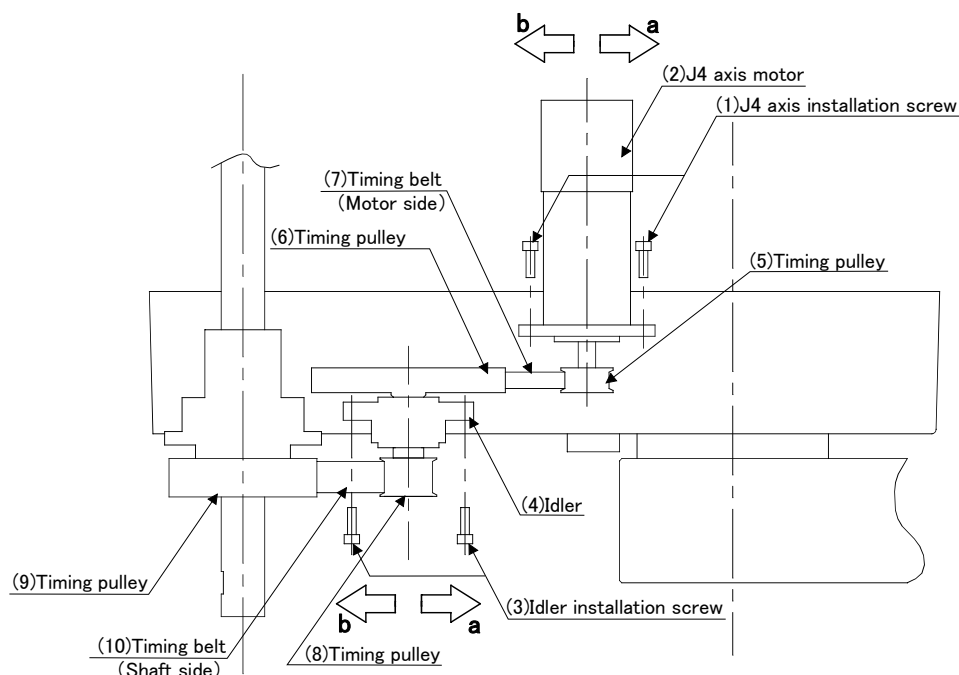

Fig.5-11 : Inspection, maintenance and replacement of J4-axis timing belt
- 1) Fig. 5-11 shows the methods for inspecting, adjusting and replacing the timing belt.
- 3) To reduce dislocation, try to keep the relative positions of the timing pulleys (5), (6), (8) and (9) as much as possible.
- 4) Loosen the three idler installation screws (3) and the two J4 axis motor installation screws (1) to remove the timing belts (7) and (10). If the hand prevents the belts from being removed, remove the hand when changing the belts.